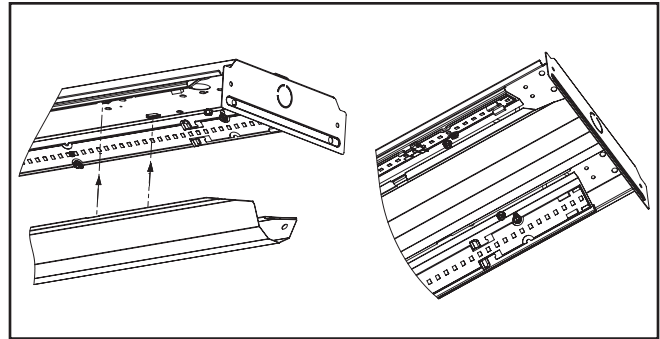

Figure 3.
6. Install channel cover (Figure 3).